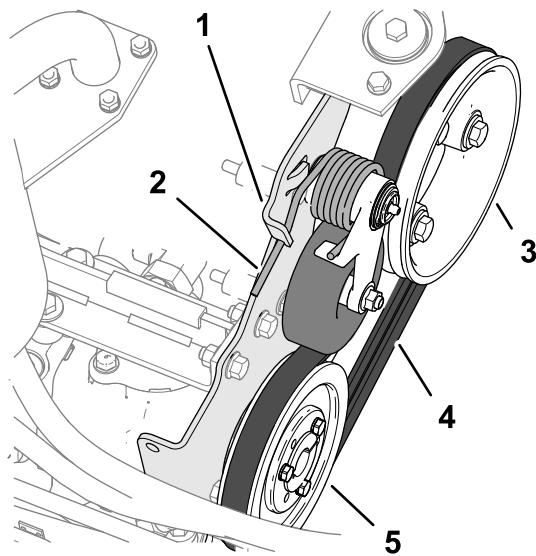

Figure 88
2. Push down the end of the belt-tension spring down and out of the notch in the tab of the pump mount, and move the spring end forward (Figure 88).